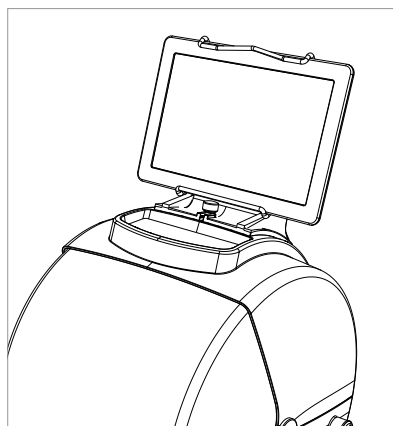

Fig. 16
- 5) Fit the tablet into its stand (Fig. 16).